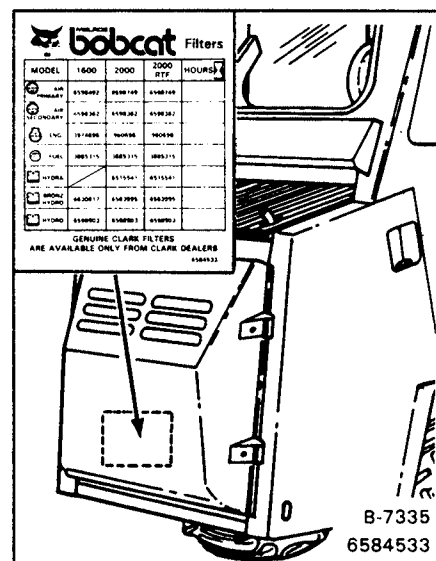

Fig. 1-9 Filter Decal
(8) Record the operating hours of the loader on the decal (Fig. 1-9, Item 1).
(3) The cap must be clean before it is installed on the fuel tank and tightened (Fig. 1-9, Item 1).